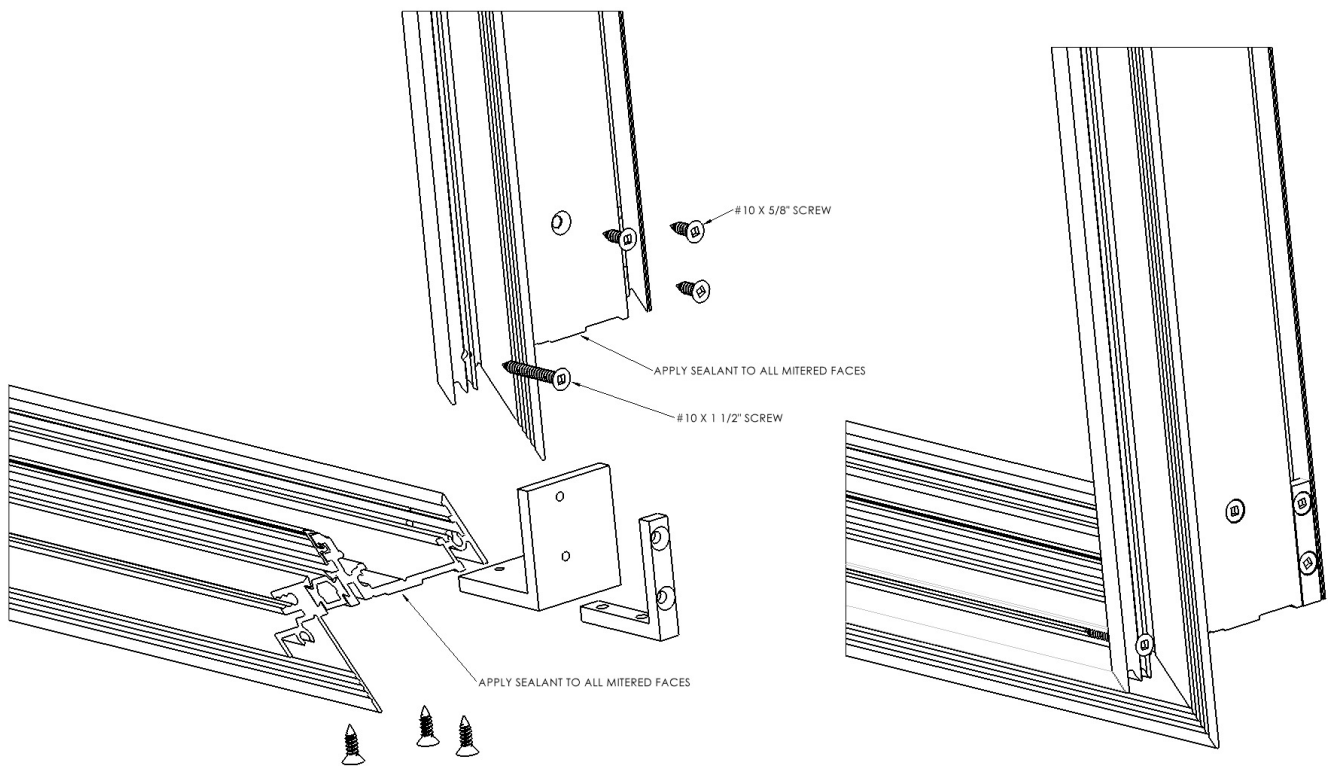

Figure 15
7. Assemble the corners of the perimeter frame using the two keys and #10 x 5/8" screws. Apply a generous coat of Dow 795 sealant or equivalent to each mitred face. For perimeter frames with a nail fin, an additional screw will be used on the outer corner. (See Figure 15)